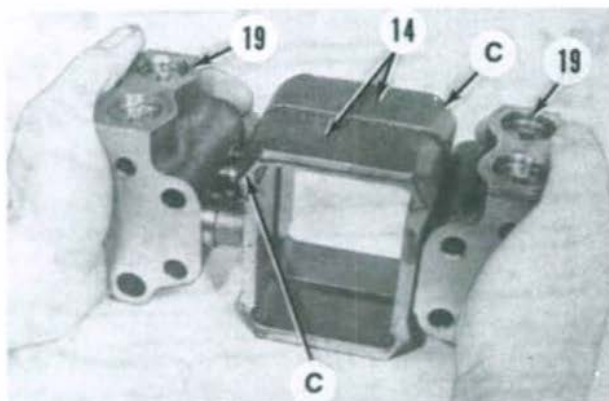

Fig. 242—Chamfered corners (C) of piston yokes (14) must face away from each other.
231. ASSEMBLY. Assemble valve chambers (19—Fig. 242) onto piston yokes (14) making sure chamfered corners (C) of yokes face away from each other. Install camshaft, cam follower and cam blocks into piston yokes making sure cam block with shoulder is at front (widest lobe) of camshaft and that shoulder faces inward. Slide camshaft assembly into rear body making sure end of cam follower (20—Fig. 237) is towards bottom of pump.